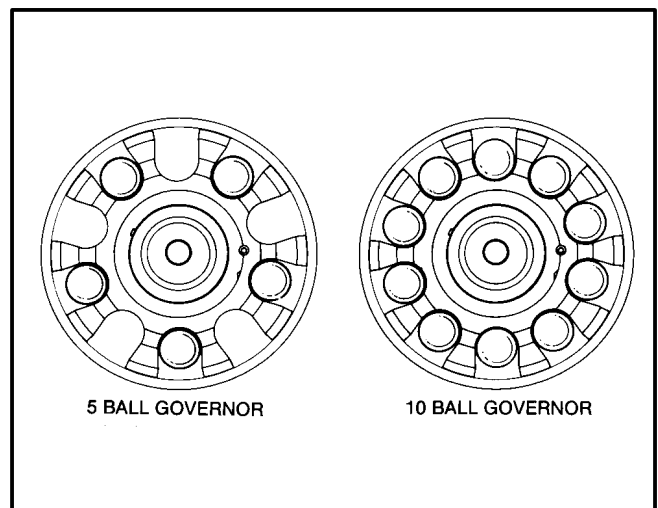

FIGURE 10-12. FLYBALL LOCATIONS
1. Put the flyballs in place (see Figure 10-12).